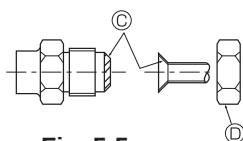

Fig. 5-5
A (Fig. 5-5)
5.5. Connecting pipes (Fig. 5-4) (Fig. 5-5)
- [Fig. 5-5]
- Apply thin layer of refrigerant oil to pipe and joint seating surface before tightening flare nut. ④
- Use 2 wrenches to tighten piping connections. ⑤
- Apply refrigerating machine oil over the entire flare seat surface. ⑥
- Use the flare nuts as follows. ⑦